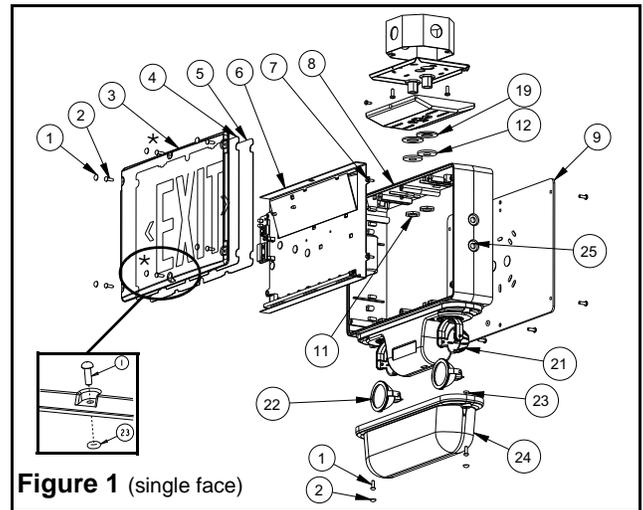
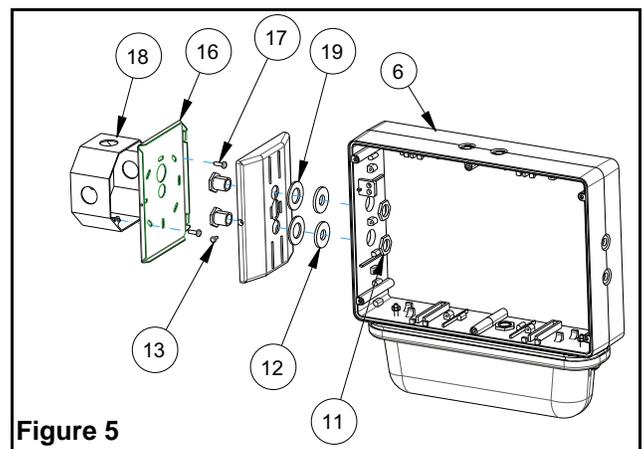

Figure 1 (single face)
Figure 5
- c. Remove proper knockouts in canopy backplate for desired mounting position. **For Nexus wired option**, install the liquidtight™ fitting, provided with the unit. For side mount, use the knockout located on top of the unit. For ceiling mount, use the knockout located on side of the frame (see fig. 5).
- e. Make sure the securement screw is accessible (see fig.1 & 2 part # 13). Use existing screws in junction box to secure canopy backplate to the junction box.
- h. Determine which holes in the exit frame will be used for mounting (see fig. 1,2 & 5). Support frame with two blocks of wood, maximum one inch apart. Strike knockouts with a hammer and screwdriver. Clear holes of burrs to allow proper assembly of nipple/wire assembly. Note: end mount installation is weatherproof but not certified for Nema 4X (see fig. 5).
- i. Secure canopy to the frame by threading the provided nipple/wire assembly through the canopy and frame. Make sure the gasket washers are between the canopy and frame, and that the locknuts(11) are inside the exit sign (see fig. 5).
7. Install the lens-legend by using the 6 tamper-proof screws. The o-rings have to be installed on the center screws between the lens-legend and the frame (see fig. 1 & 2)
Screw and knock-out covers (see fig. 1 part 2 & 25) are available in the hardware kit. These covers can be installed on screws and knockouts to avoid any food accumulation. Note: some detergent used in food processing industry can affect durability of polycarbonate lens (see fig. 1 part 3 & 24).